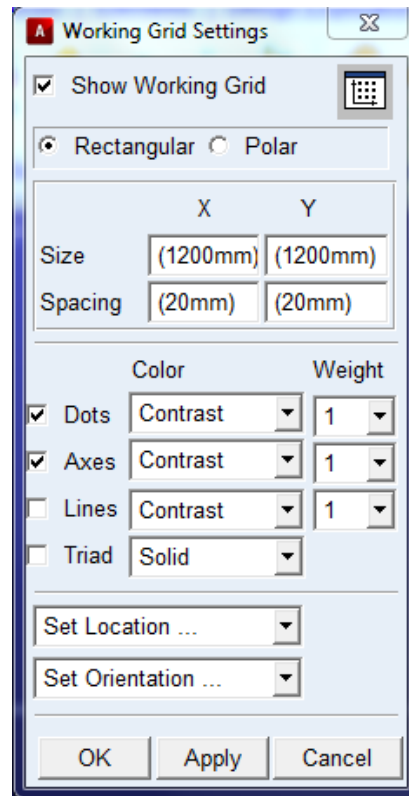

Figure 1.6
The following window appears (Fig.1.6)
- “Size” and “Spacing” values (according to Fig.1.6)